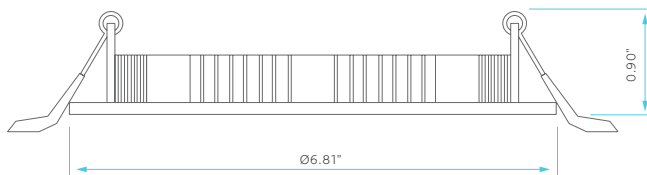

Fig. 1
3. Open the junction box cover and remove the appropriate knockout(s) on the side panel (Fig. 1)